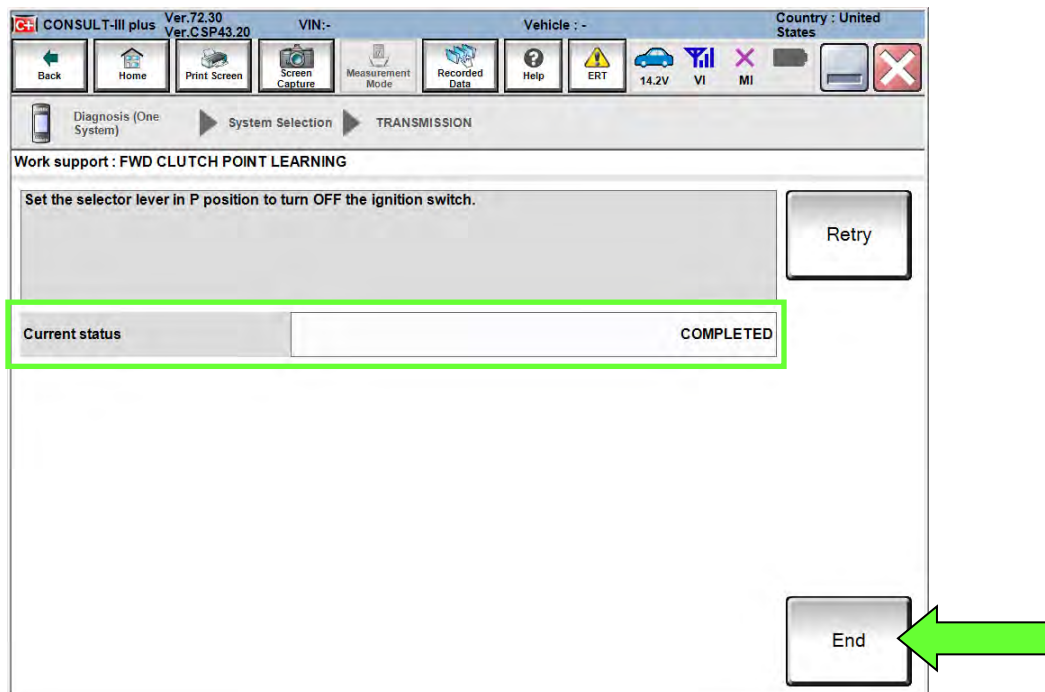

Figure 10L
18. When the screen in Figure 10L is displayed, select **End**.